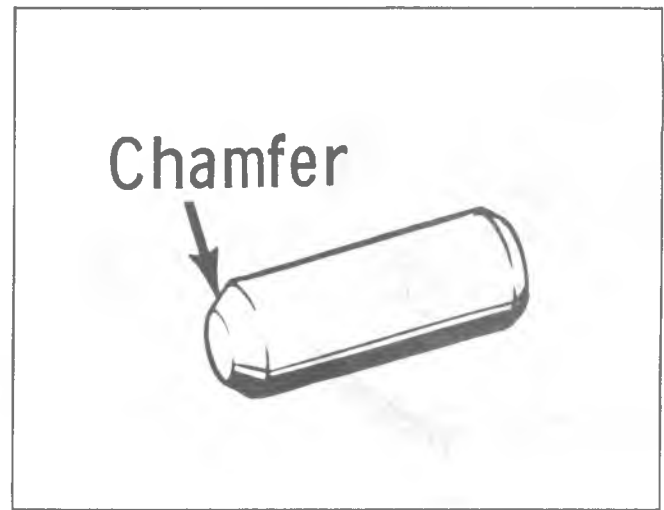

Fig. 6A6-79--Dowel Pin Chamfer
1. Grind a chamfer on one end of each dowel pin as shown in Fig. 6A6-79.